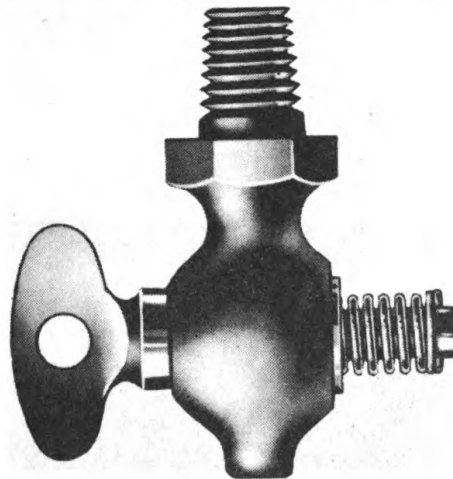

Figure 33—Cross Section of Drain Cock.
7. Drain Cock. (See figure 33.)